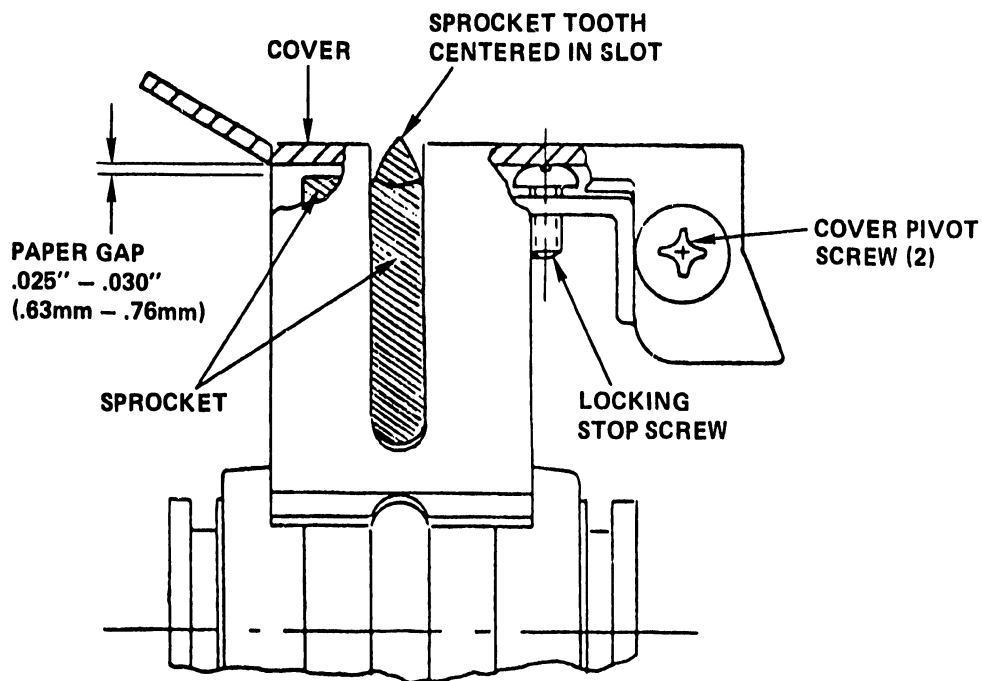

Figure 5-37. Paper Feed Sprocket Adjustments
2. The teeth of each sprocket should be located in the center of its cover slot as shown in Figure 5-37.